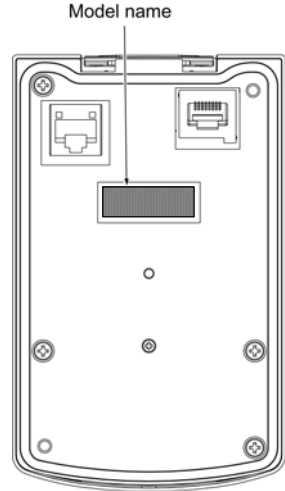

Figure 1.1 Back of Multi-function Keypad TP-G1-CLS / TP-G1-ELS
- (1) The package contains a multi-function keypad and the following attached goods.
- (2) There have been no problems during transportation. In particular, no parts are damaged or have fallen out of place nor are there any dents on the body.
- (3) The model name "TP-G1-CLS" or "TP-G1-ELS" is printed on the back of the multi-function keypad as shown in Figure 1.1. The language that can be displayed is different in each model name. (Refer to the table below)